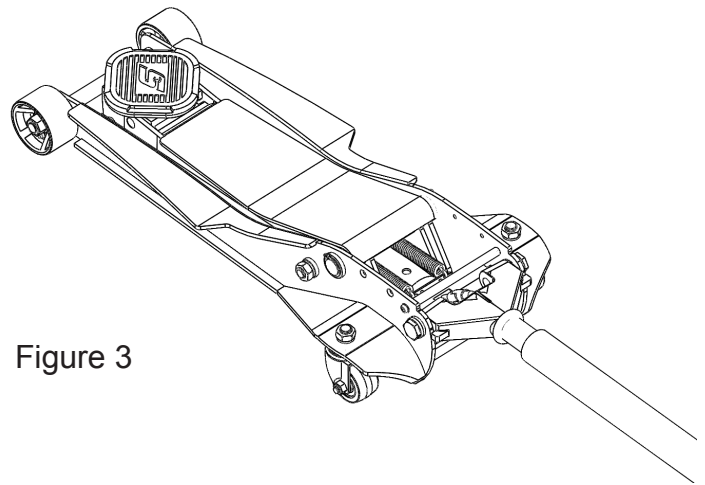

Figure 3
1. Place the jack on a flat level surface. Remove the jack's cover plate. The jack's lift arm should be all the way down. See Figure 3.